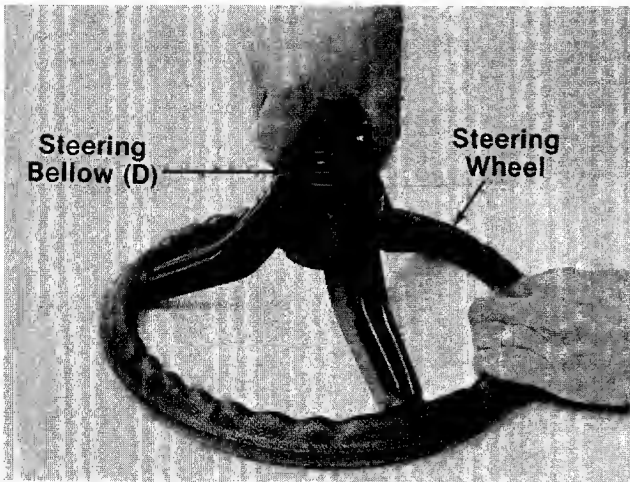

FIGURE 13.
1. Attach steering bellow (D) to the steering wheel as shown in figure 13.